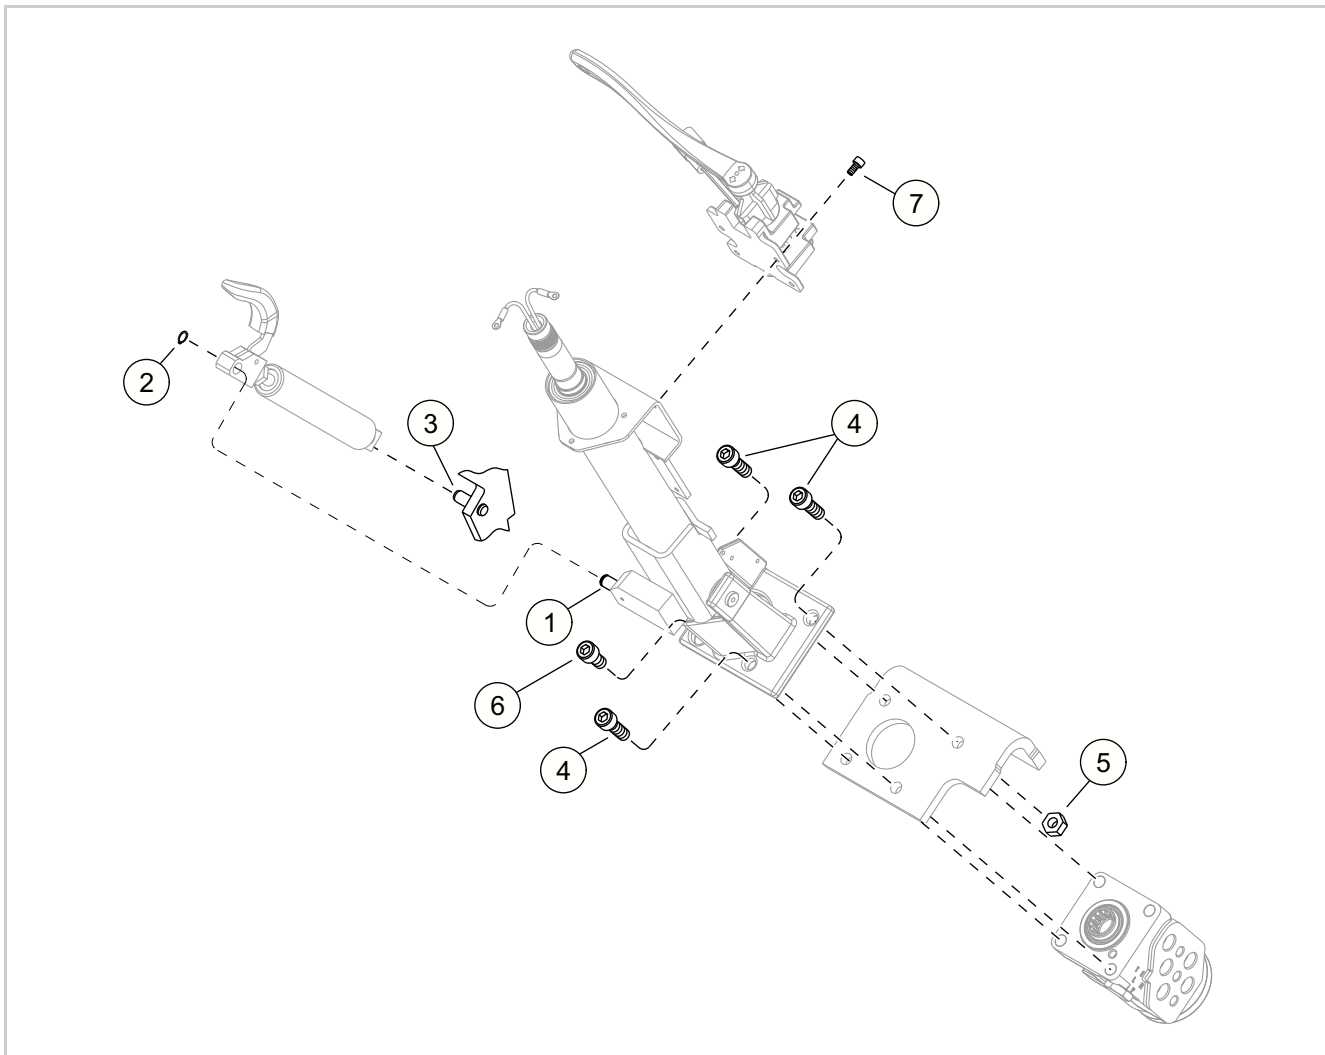

Fig. 12 (31237)
1. See Figure 12. Apply grease on the outside diameter of the tilt pin (1) and install the release head with gas cylinder included on the tilt pin.
2. Install the retaining ring (2) to secure the release head to the tilt pin.